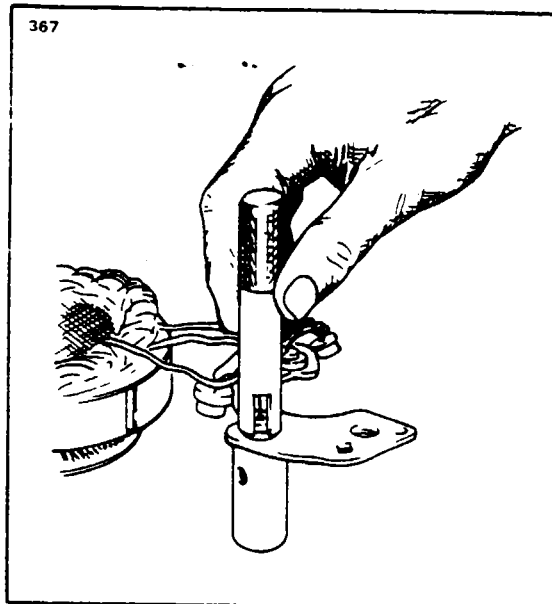

Figure 11-25. Installation of Rectifier
b. Carefully install the rectifiers in the slip ring end head or rectifier mounting plate by supporting the unit and using the special tools illustrated in Figure 11-25.